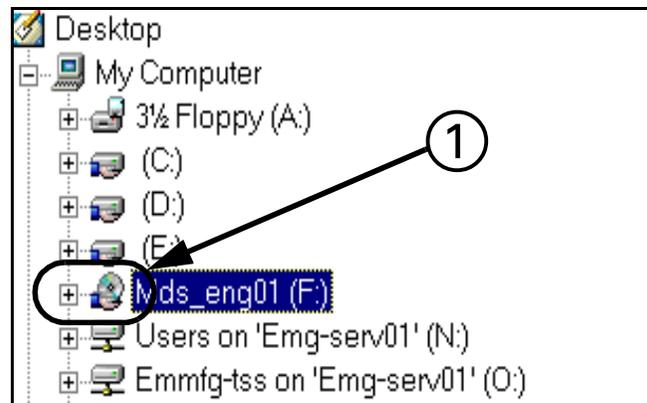

Figure 3-8 Windows Explorer
- Verify that there is a hand shown below the CDROM icon (see ① in Figure 3-8).